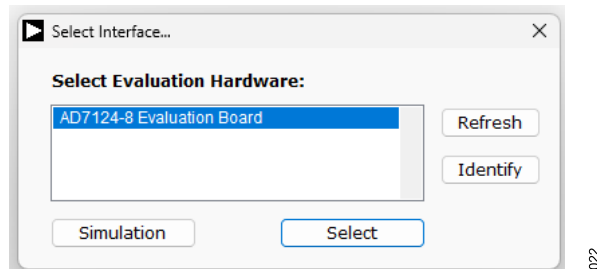

Figure 22. AD7124 Evaluation Board Selection
- From the Start menu, click **Programs > Analog Devices > AD7124 Eval+ > AD7124 Eval+**. The dialog box in Figure 22
When running the software, select the specific evaluation board connected to the PC, as shown in Figure 22. For the AD7124-4/AD7124-8, select the **AD7124-4 Evaluation Board/AD7124-8 Evaluation Board** from the **Select Evaluation Hardware** area, as shown in Figure 22.